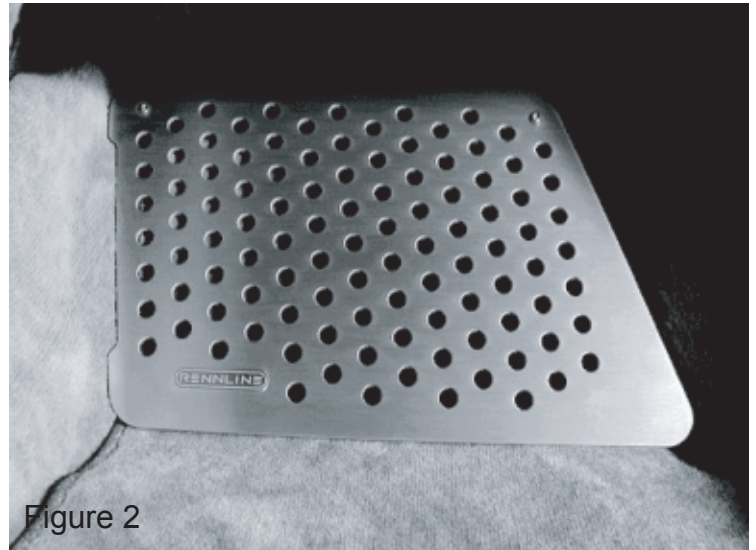

Figure 2
7. Attach face panel to mounting plate using the supplied stainless steel button head screws. (See Figure 2)